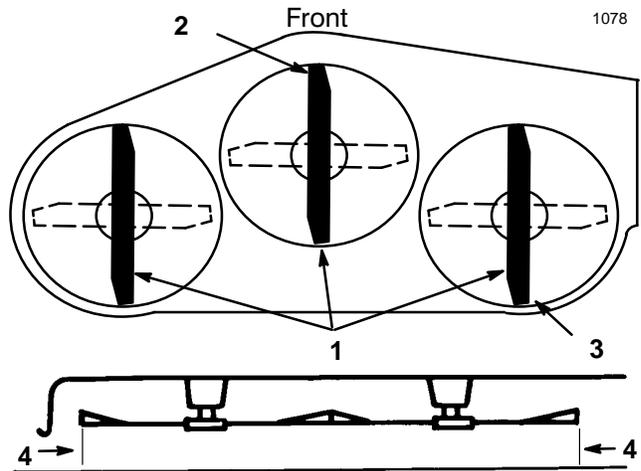

Figure 10
4. Carefully rotate blades so they are facing front and rear (Fig. 10).
5. Measure from the tip of the front blade (Fig. 10), and the tip of the rearward blades to a flat surface. If the front blade tip is not 0–3/8” lower than the rear blade tips adjust front adjustment links.